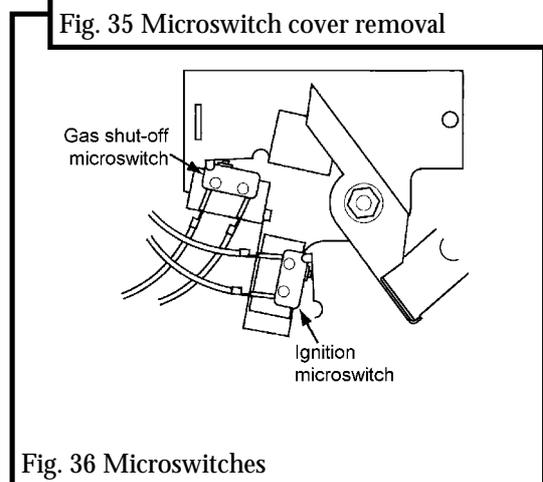

Fig. 36 Microswitches
13.1.3 Disconnect the leads from the ignition microswitch (The lower of the two microswitches - See figure 36).
13.2.4 Detach the microswitch assembly by removing two screws (see figure 36).